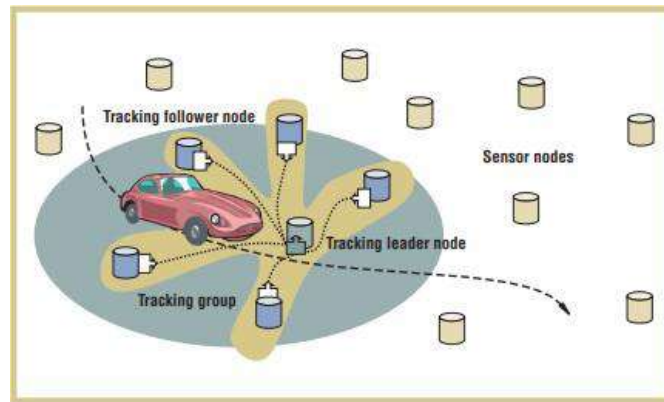

Figure 5.7. Collaborative processing in a leader-based object-tracking scenario.
- As Figure 5.7 illustrates, at any time instant t , IDSQ designates a single node, located close to the target, as leader. The leader node fuses these high signal-to-noise ratio measurements and updates its current target location estimate, referred to as the belief.